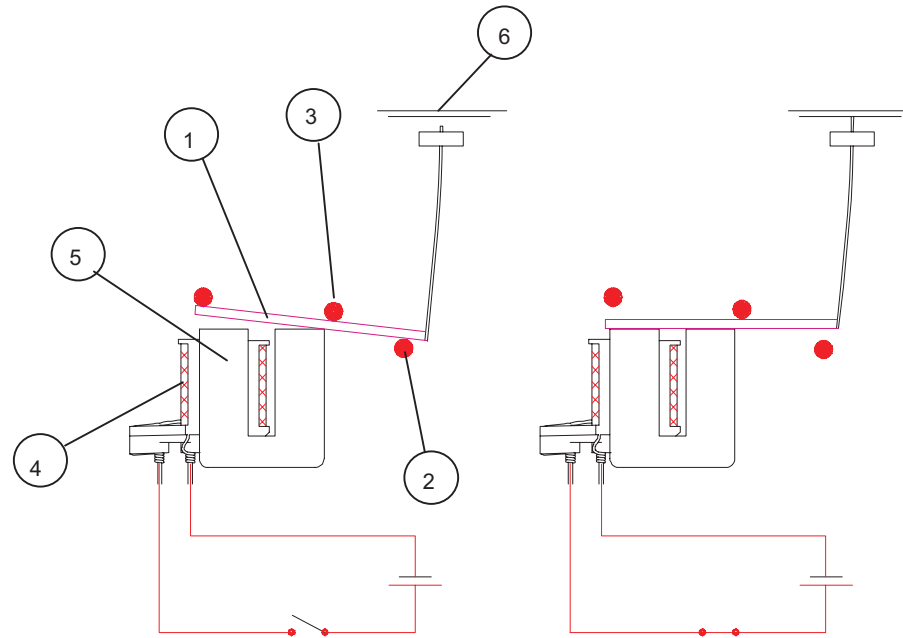

Figure 42. Needle Operation
With reference to Figure 42, when the actuator is at rest, the Clapper (1) is pushed against the central Stop (2) by the hinge O-Ring (3).